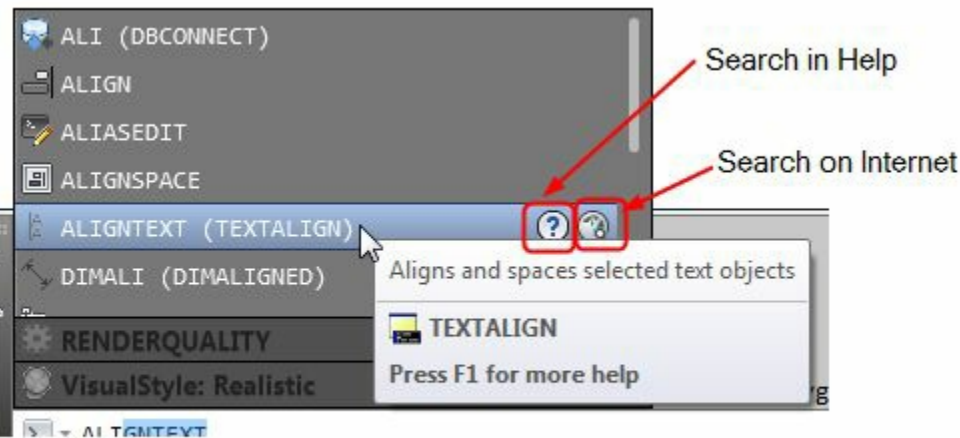

Figure-46. Tool description
- Hold the cursor on the name of a command, the description of the command will be displayed; refer to Figure-46.